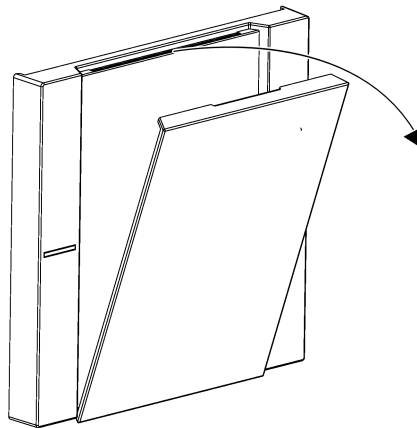

Figure 10: Remove the labelling field cover
- Pull on one side at the notch in the cover of the labelling field to separate from the rocker (see figure 10).